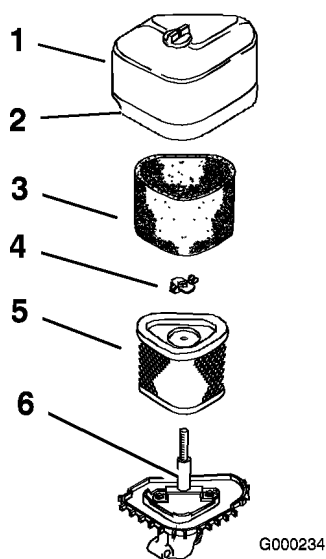

Figure 32
2. Clean around the air cleaner to prevent dirt from getting into the engine and causing damage. Unscrew the cover nut and remove the air cleaner cover (Figure 32).
3. Remove the air cleaner assembly (Figure 32).
4. Carefully slide the foam element off the paper element (Figure 32).
1. Carefully slide the foam element onto the paper air cleaner element (Figure 32).
2. Place the air cleaner assembly onto the air cleaner base (Figure 32).
3. Install the air cleaner cover and secure with cover nuts (Figure 32).